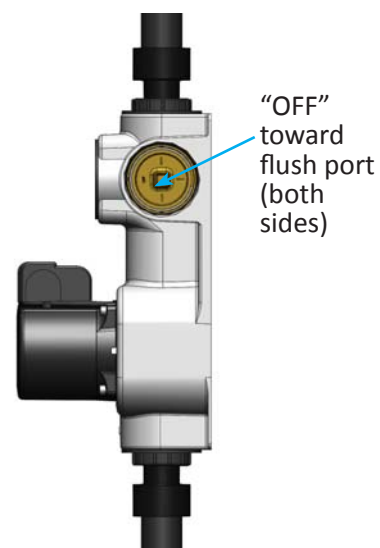

Figure 32: Flow-Link™ Double O-ring flow center valve positions for normal operation
14. Rotate the left valve back to the operating position (Figure 32). Turn off the spigot to the left hose, and remove hoses and fittings from flow center.